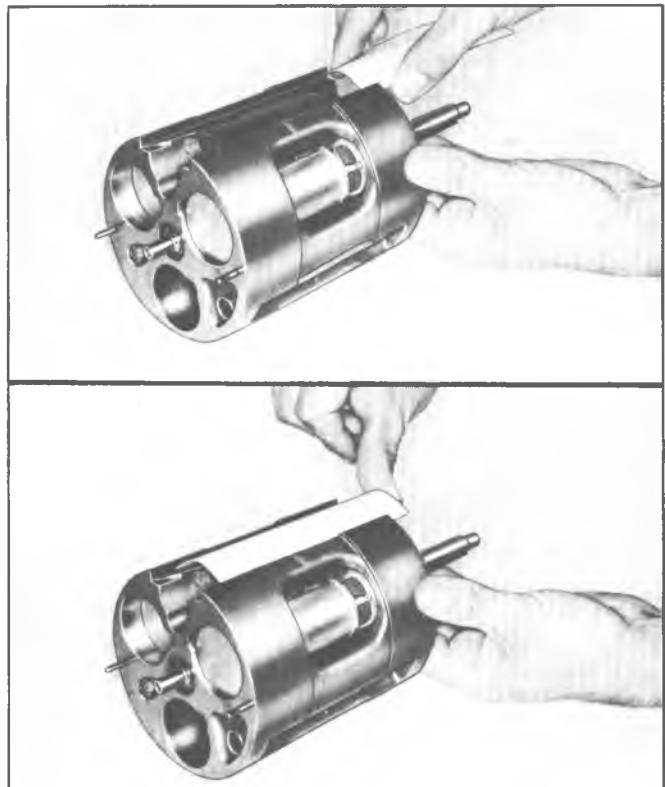

Fig. 25-Installing Suction Crossover Cover
12. Replace the suction crossover cover as shown in Figure 25. Compress the cover (as shown) to start it into the slot, and then press it in until flush on both ends.